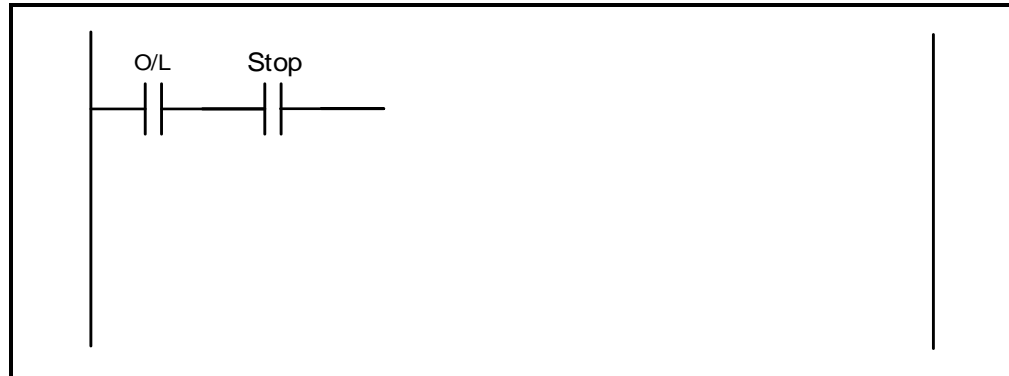

FIGURE 7.3.3: LADDER LOGIC DIAGRAM
- 7.3.3 Redraw and complete the ladder logic diagram in FIGURE 7.3.3 in the ANSWER BOOK to execute the same function as in FIGURE 7.3.